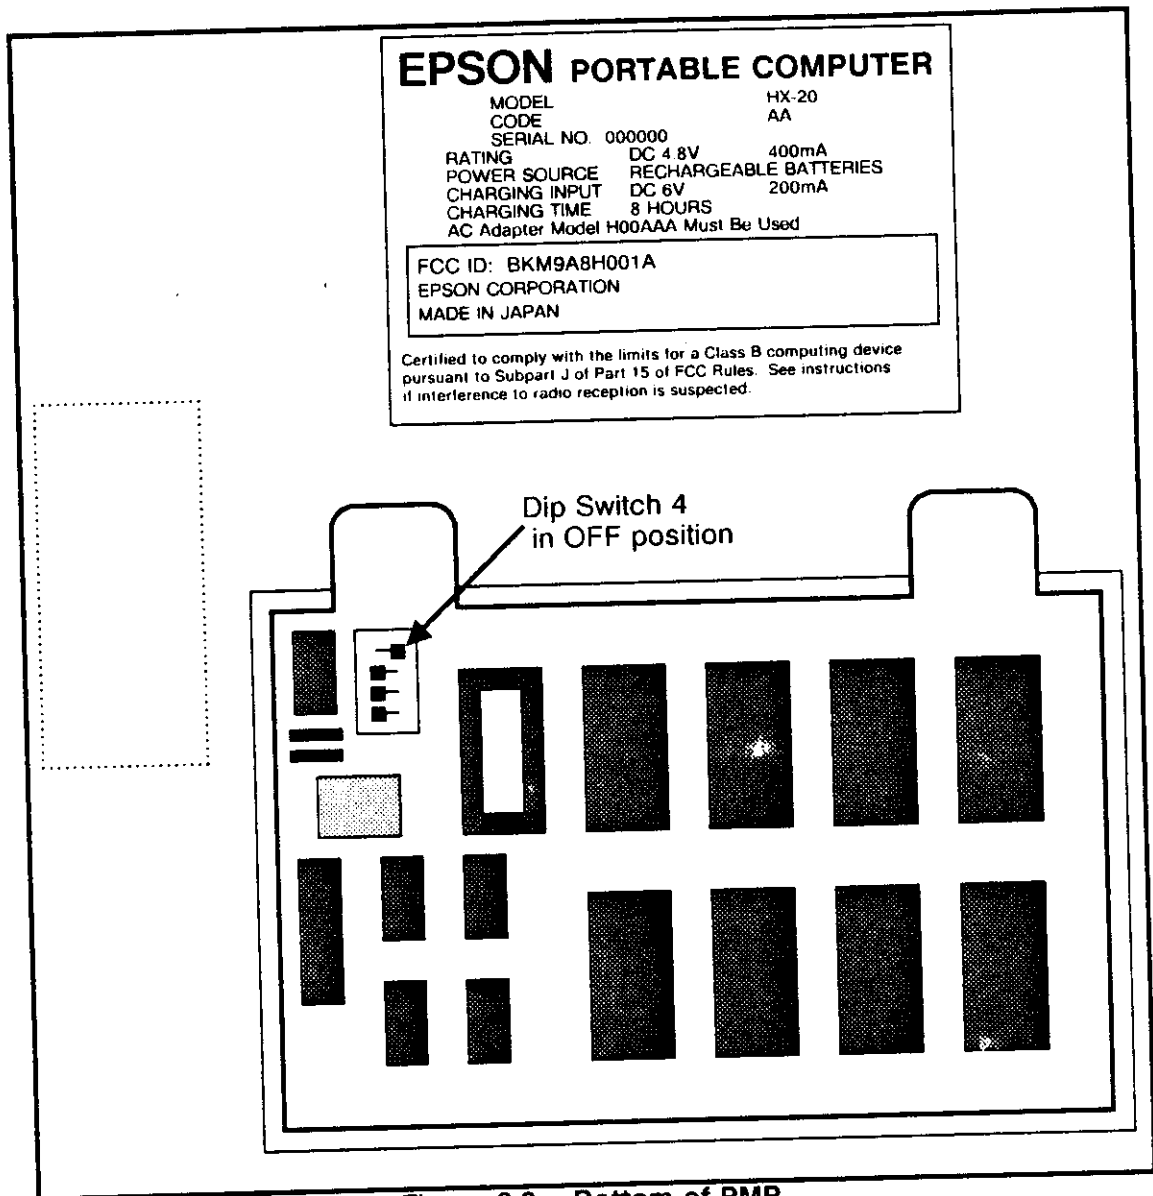

Figure 2.8 Bottom of PMP
3. Remove the bottom panel of the PMP (Figure 2.8).